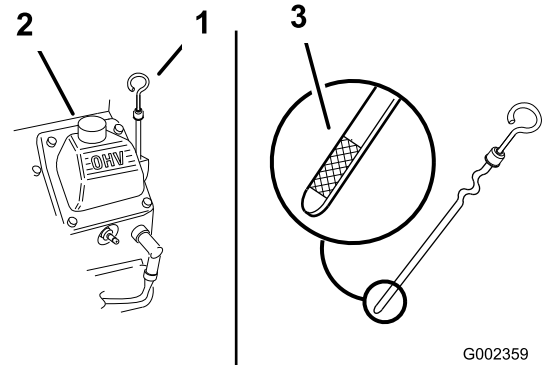

Figure 24
3. Clean around the oil dipstick (Figure 24) so that dirt cannot fall into the hole and damage the engine.
4. Remove the oil dipstick and wipe the end clean (Figure 24).
5. Slide the oil dipstick fully into the filler tube (Figure 24).
6. Slowly pour approximately 80% of the specified oil into the filler hole (Figure 24).